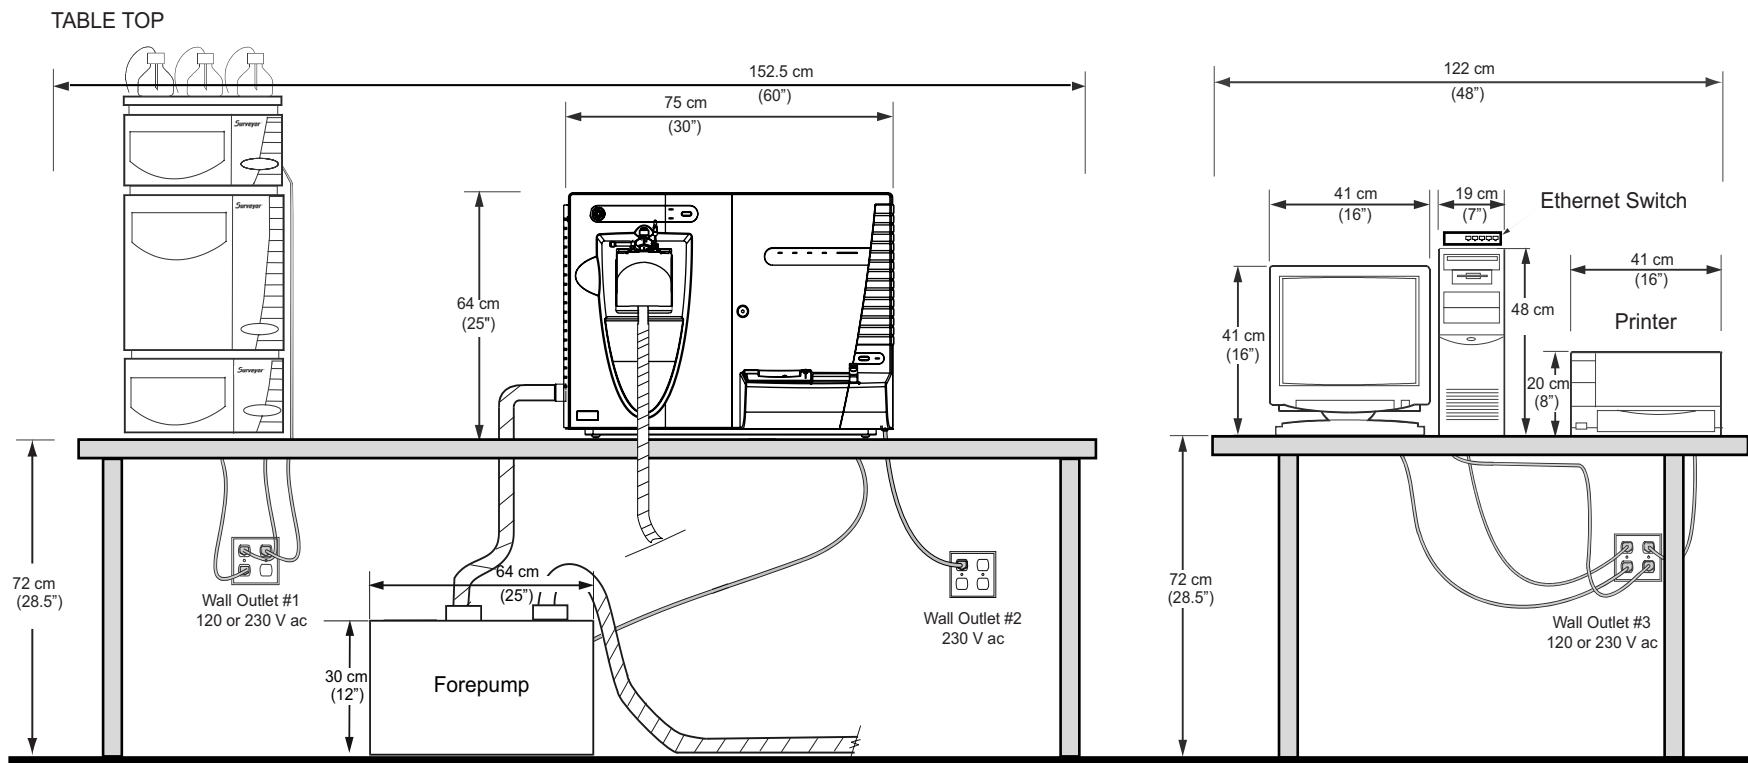

Figure 1. LXQ system installation and space requirements
The recommended layout for the LXQ system is shown in Figure 1. The space requirements and weights of the components of the typical LXQ system are given in Table 2.
- If the workbench has space beneath it, place the forepumps under the workbench immediately behind the LXQ. (See the tabletop layout in Figure 1.) Either run the vacuum hose behind the workbench or make a 64 mm (2.5 in.) diameter hole through the bench for the vacuum hose. Allow for room to run the power cords from the forepumps through the hole.